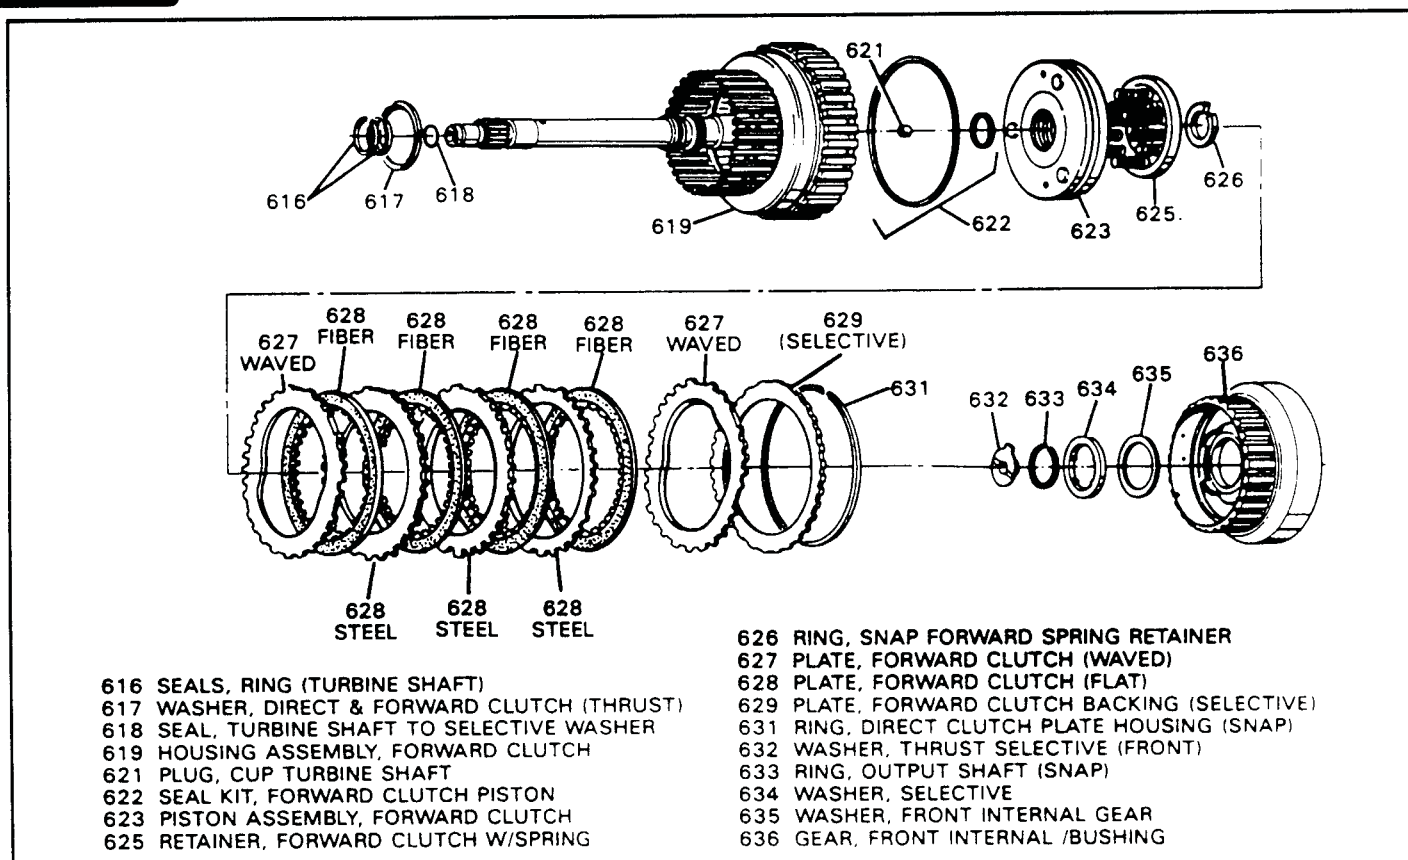

Figure 128
- (1) FORWARD CLUTCH HOUSING - Check ball capsule in the housing has been eliminated (See Figure 128).
- (2) FORWARD CLUTCH PISTON - Now has two "bleed" holes added on the surface where the wave plate seats (See Figure 128).
- (3) FORWARD CLUTCH WAVE PLATE - An additional wave plate added next to the backing plate (See Figure 128).
- (4) INPUT INTERNAL RING GEAR - Dimensional changes that will not allow the previous ring gear to be used with the "feed/bleed" system parts.